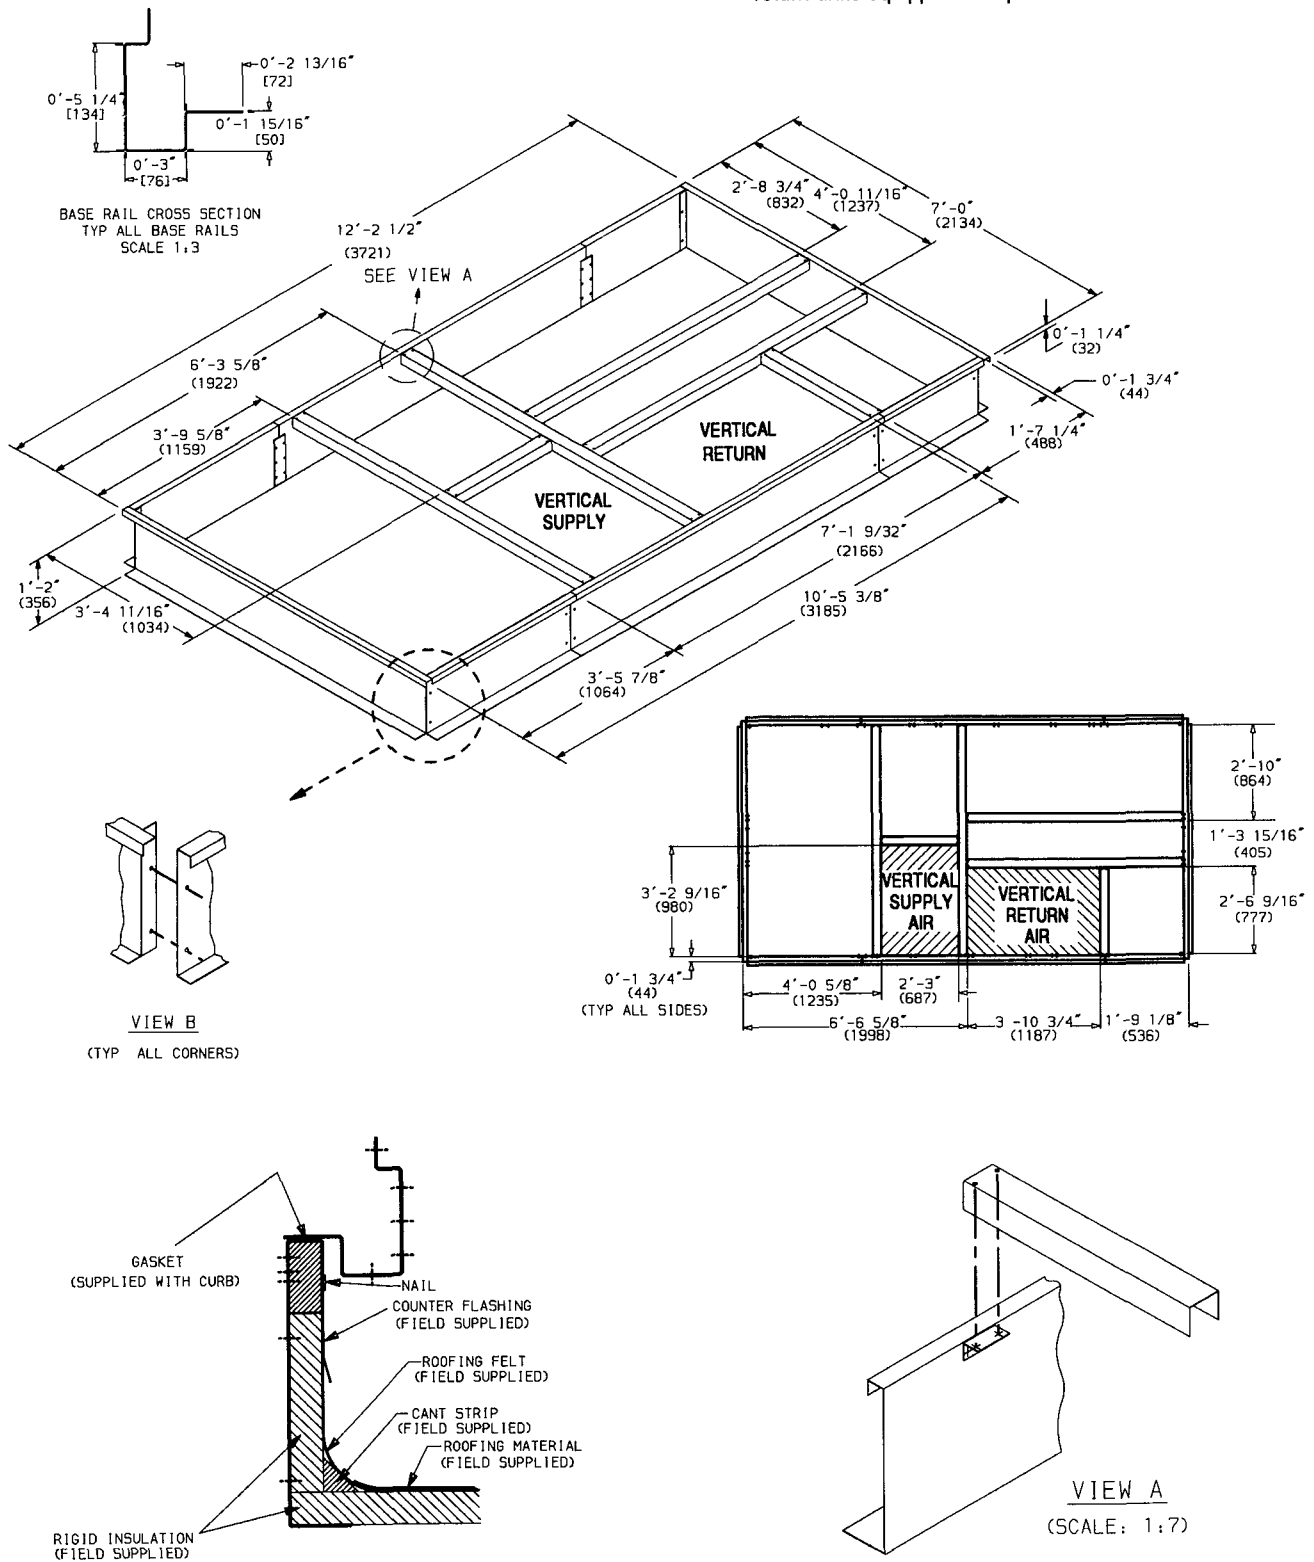
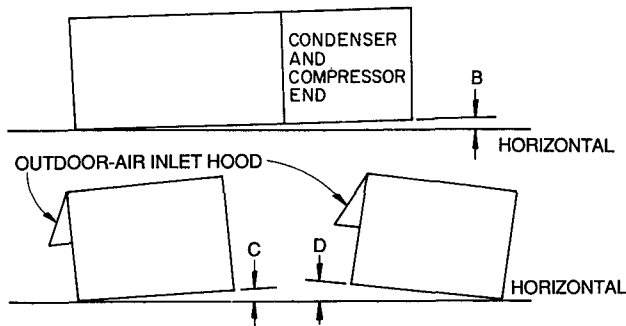

**Fig. 2a – Roof Curb Details, 48LJ/50LW024 Units**
Fig. 3 – Unit Leveling Tolerances
**Roof Curb** — Assemble and install as described in instructions shipped with this accessory. Accessory roof curb and information required to field fabricate a roof curb is shown in Fig. 2a and 2b. Install insulation cant strips, roofing and counter flashing as required. For unit drains to function properly, curb must be level or within tolerances shown in Fig. 3.